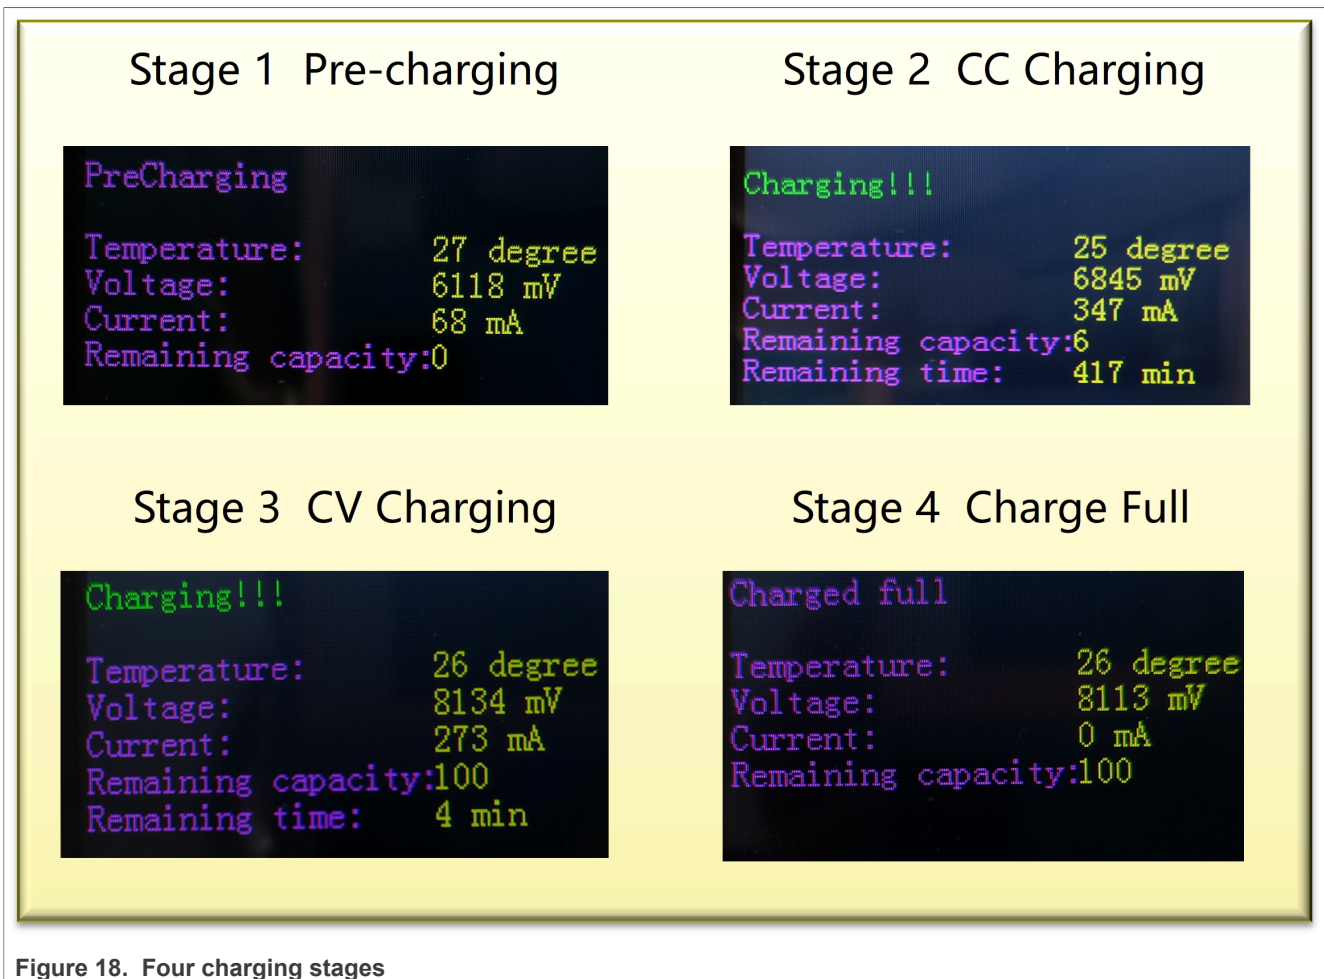

Figure 18. Four charging stages
4. If the battery voltage is lower than *g\_PreChargeMaxVoltage*, it enters the pre-charge mode. When the battery voltage crosses *g\_PreChargeMaxVoltage*, it enters the constant current charging mode. The constant voltage charging mode starts when the battery voltage reaches *g\_CCChargeMaxVoltage*. The voltage is maintained at *g\_CCChargeMaxVoltage* until the current drops to *g\_CVChargeMinCurrent*. Then charging is completed. The states of these four charging stages are shown on Figure 18: